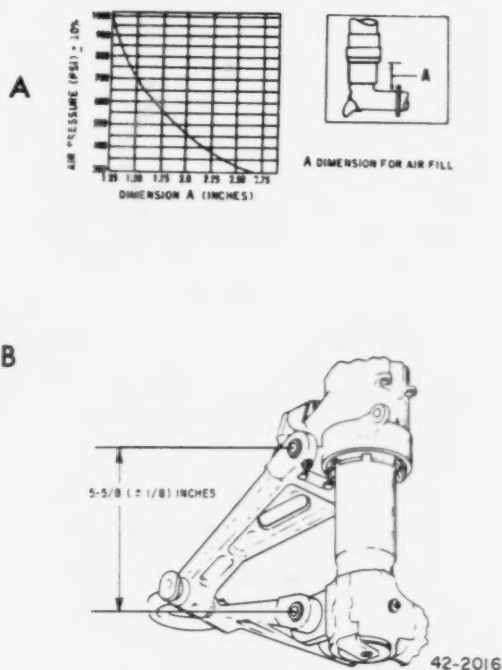

Figure 2-7. Shock strut servicing.
Attach a high-pressure air chuck and inflate the strut, using a regulated high-pressure source of nitrogen or dry compressed air. Under no circumstances should any type of bottle gas, other than nitrogen or compressed air, be used to inflate the shock struts. Nitrogen is preferred over compressed air. The amount a strut is inflated depends upon the specific aircraft strut being serviced. Figure 2-7 shows two ways of determining the amount a strut is inflated. In view A it shows a strut with the proper extension. It is measured from the center of the upper torque arm to the center of the lower torque arm. All you do is inflate the strut until you get this dimension. In view B you would have to use a strut inflation chart. The strut is measured as indicated at dimension "A." This measurement in inches is then located on the bottom of the inflation chart. For example, locate the measurement of 1.75 inches on the chart. Then from this point, trace an imaginary line vertically until it intersects the curved line. At this point of intersection, trace a second imaginary line horizontally to the left edge of the chart. The amount indicated at this point (550 psi) is the required pressure for that particular extension of the strut.
4. Referring to figure 2-7, view A, how much air must be placed in the strut if the strut shows 2.0 inches of extortion?